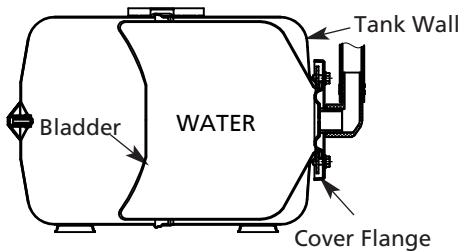

Figure 21 – Proper Installation and Seating
11. Clean sealing surface and groove of cover flange; place on tank (see Figure 21).